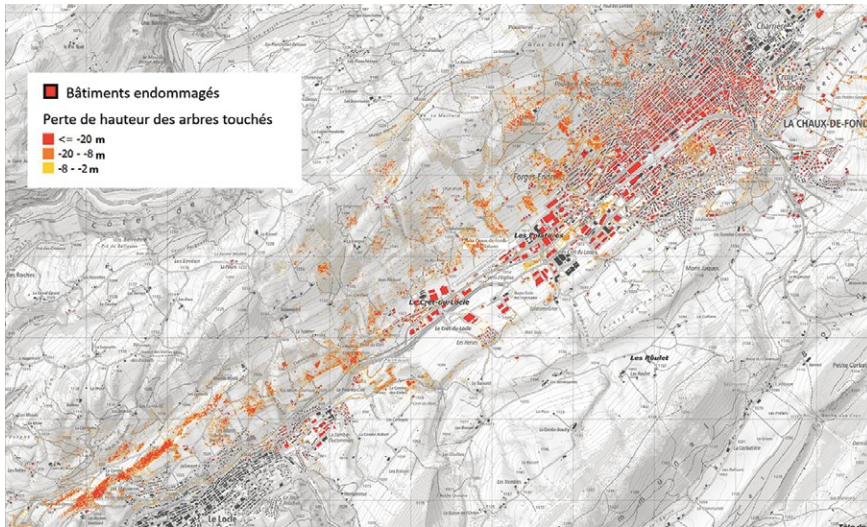

Figure 4: Map of damage, showing the difference between pre- and post-storm canopy models.
- Digital canopy models generated before and after the storm, together with their differences to quantify vegetation loss (Figure 4).